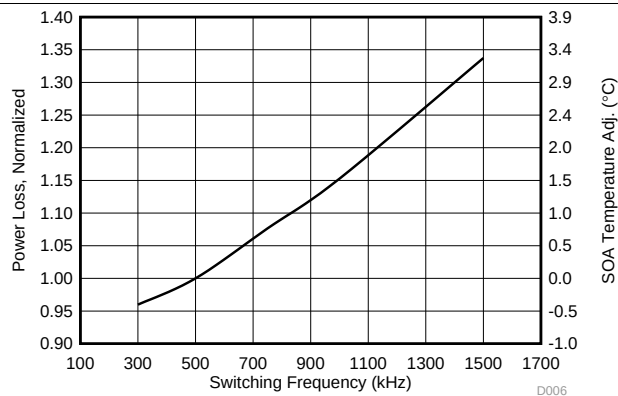

Figure 4. Normalized Power Loss vs Switching Frequency
- Normalized power loss for switching frequency ≈ 1.08 (Figure 4)